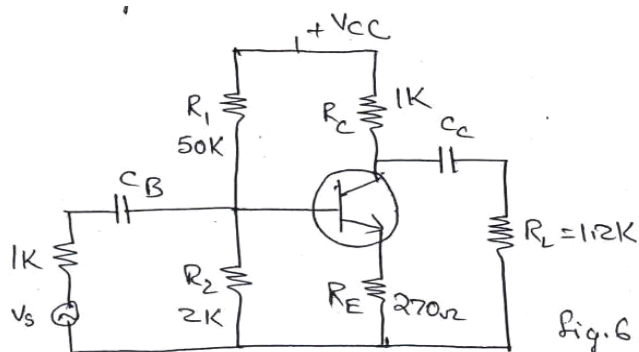

Fig. 6.
6) Find current gain, voltage gain, input and output resistance for unbypassed CE amplifier. In fig 6.
7) For fig.6 use typical values of h parameter and $R_s = 10K, R_1 = 100K, R_2 = 10K, R_c = 1K, R_L = 5k$.